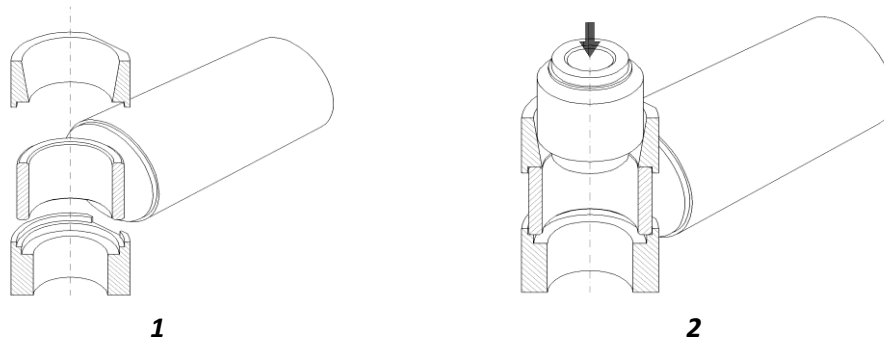

Figure 5-12 Replacement of vulcanized rubber blocks
2. Place the damper eye on a suitable tool (Figure 5-12/1).
4. Place the guiding tool on the eye (Figure 5-12/1)
5. Place the rubber bloc into the guiding tool (Figure 5-12/2)